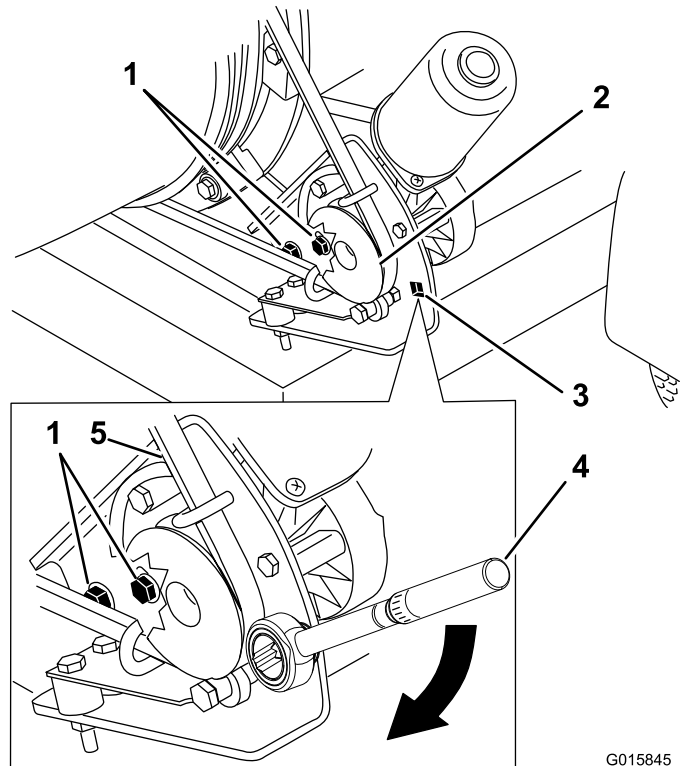

Figure 32
1. Loosen the bolts securing the pulley mounting bracket to the blower frame (Figure 32).
2. Position a torque wrench into the pulley mounting bracket (Figure 32).
3. Pivot the pulley mounting bracket away from the nozzle until the torque wrench reads 23 to 26.0 N·m (200 to 230 in-lb) (Figure 32).